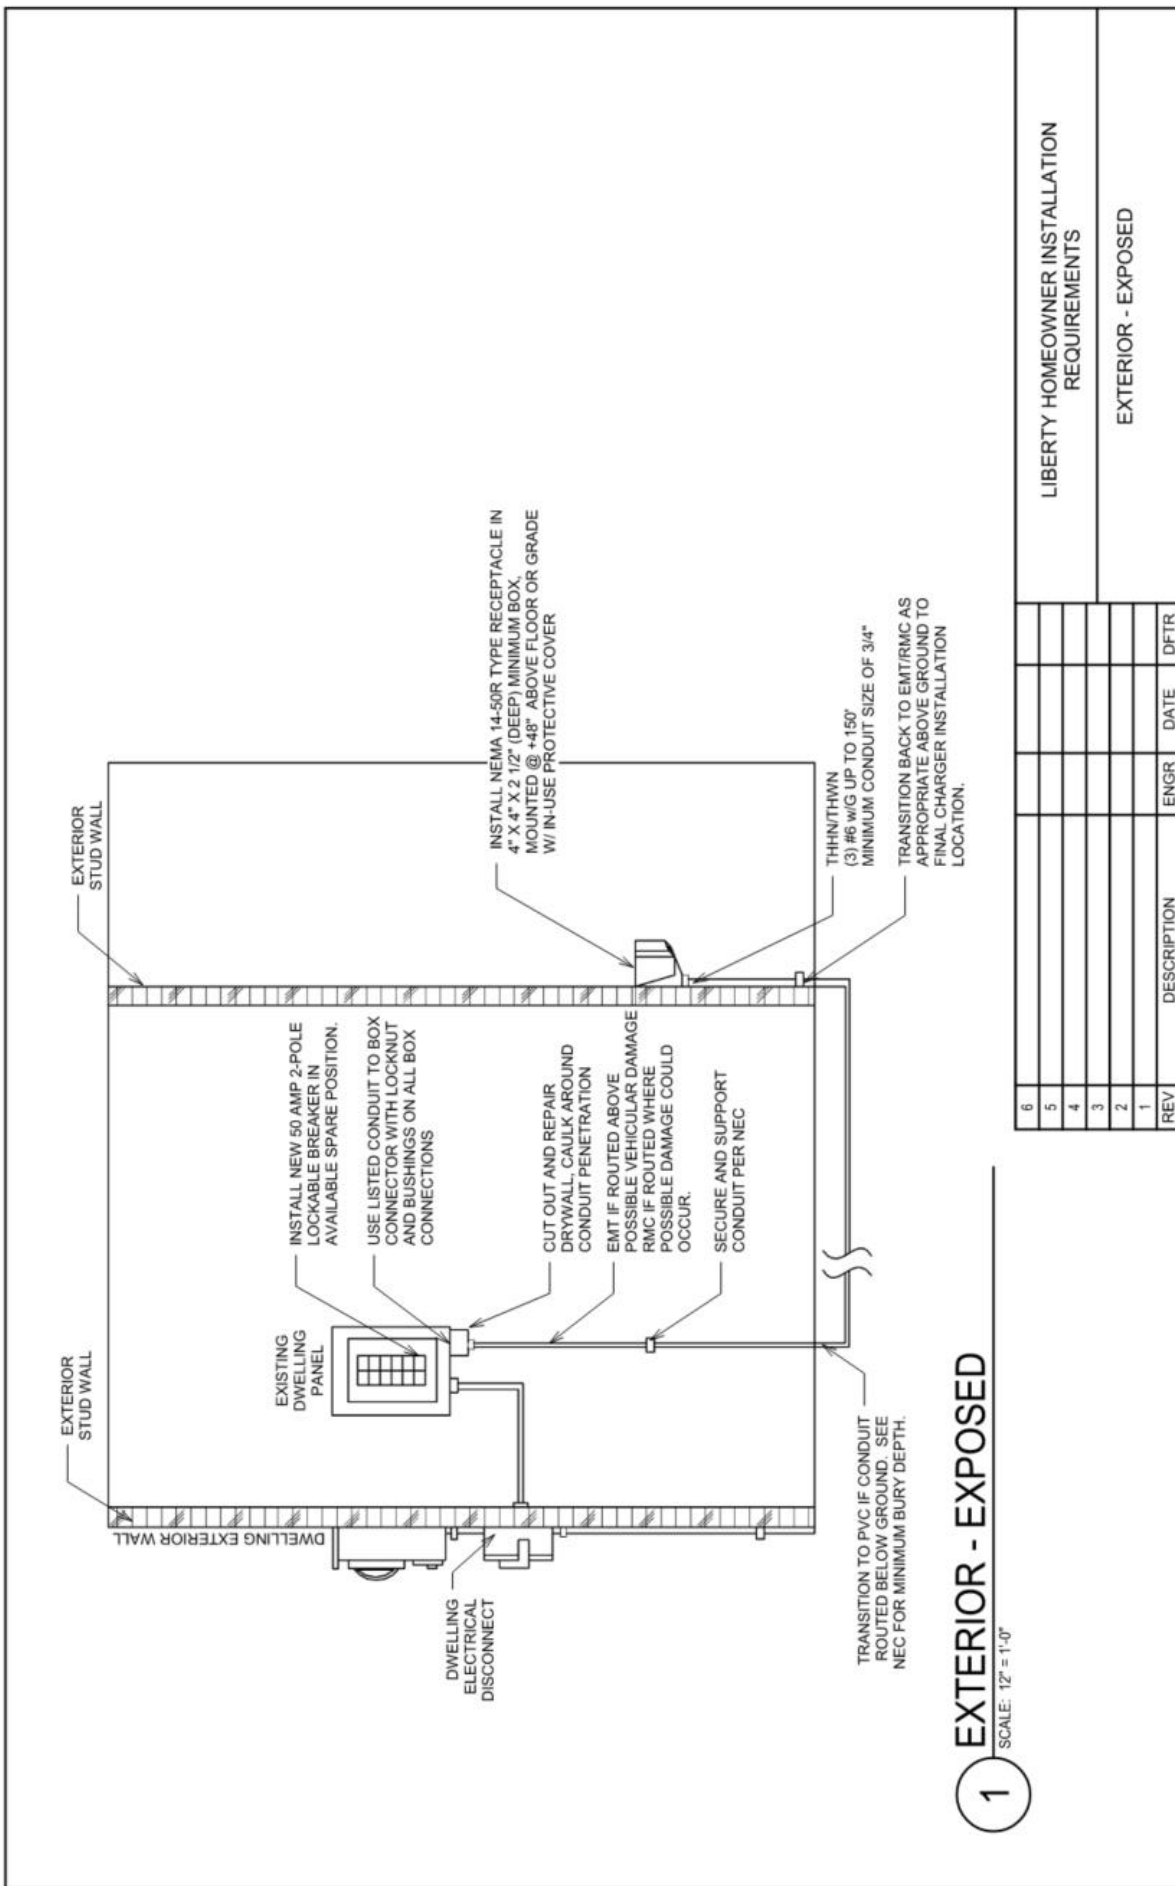

Figure 4: General diagram of outdoor installation with branch circuit in exposed conduit
- Figure 4: General diagram of outdoor installation with branch circuitry installed in exposed conduit**